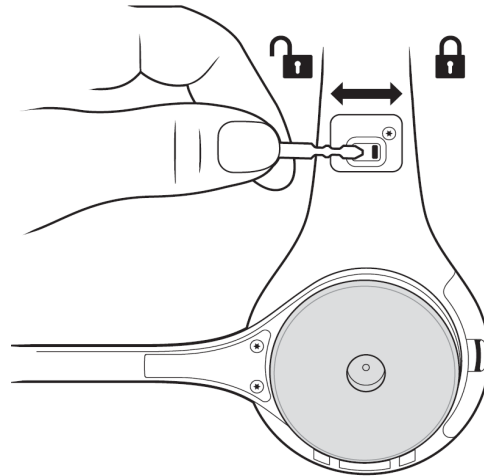

Figure 7.
1. On the opposite side of the Headset Carrier, ensure that the Control Pod Locking Mechanism is in the unlocked position by sliding it all the way to the left. A small flat-head screwdriver or other similar tool can be used to slide the locking mechanism if needed. See Figure 7.
4. Slide locking mechanism on the opposite side of carrier to the locked position. See Figure 7.